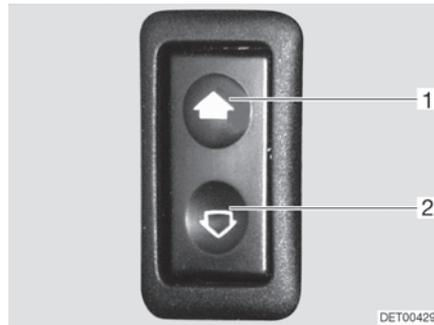

Fig. 32 Switch for electrical window winders
- Opening: ■ Press lower part of the switch (Fig. 32,2).
- Closing: ■ Press upper part of the switch (Fig. 32,1).